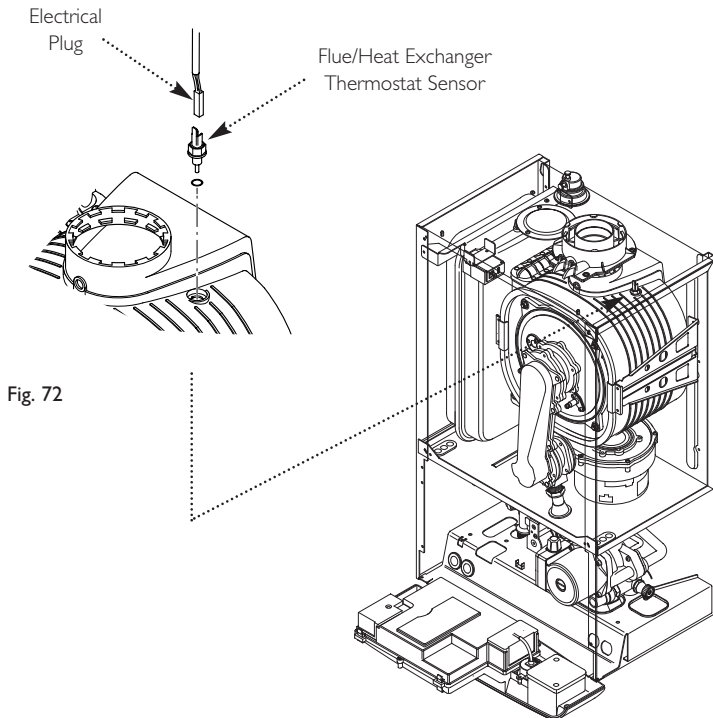

Fig. 72
14.8 Flue/Heat Exchanger Thermostat Sensor (Fig. 72)